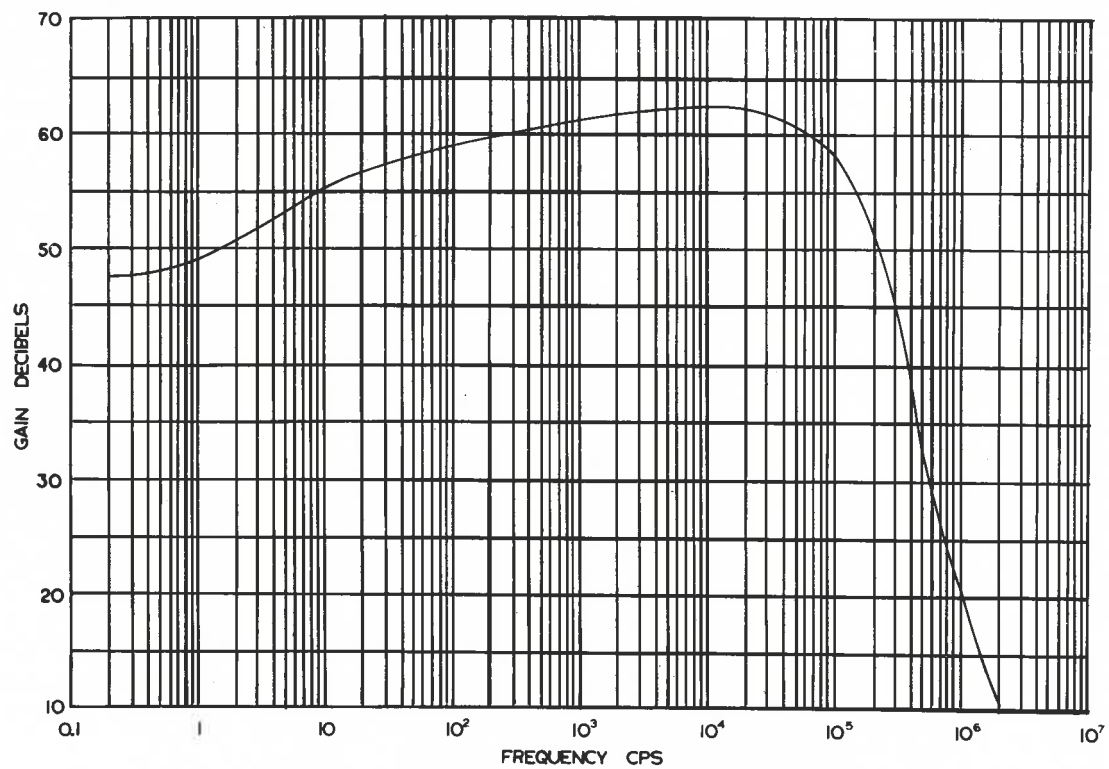

Figure 4 - Open-Loop Amplifier Frequency Response.
Turn the Amplifier on and, after a sufficient warm up period, check the quiescent current and OUTPUT DC LEVEL as described in OPERATION, SECTION II-5. Remove the short circuit from the INPUT of the Amplifier and apply a 0.1 volt signal to the INPUT terminals of the Amplifier. Measure the output voltage of the Amplifier with the vacuum-tube voltmeter and monitor the output of the Amplifier with the oscilloscope to make sure that the output is similar to the input. Figure 4 shows a typical open-loop frequency response curve of a Model DCA-50(R) Amplifier when functioning normally. The open-loop gain should be approximately 100 kc/s. At 500 kc/s, the gain should be approximately 20 db.
If, after careful evaluation, it is believed that the basic amplifier is functioning properly and the open-loop response is typical, as shown in Figure 4, it is recommended that a response curve of the feedback network be taken.